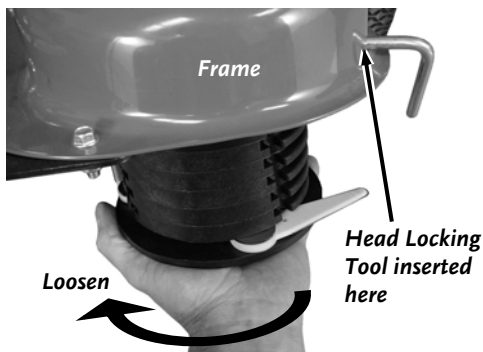

Figure 6
1. Insert the Head Locking Tool or Screwdriver into the hole in the Frame, then rotate the Mow-Ball® Support Assembly until the tool slides into a second hole that is in the shaft, locking it into place (**Figure 6**).